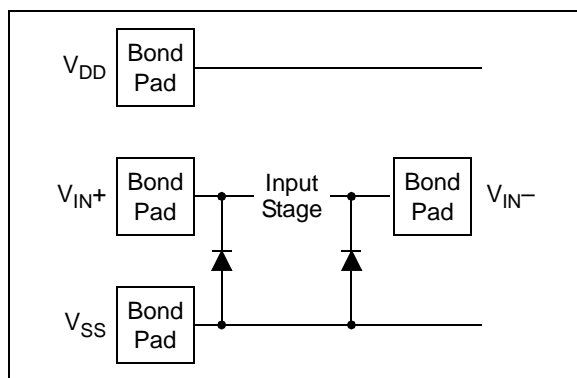

FIGURE 4-1: Simplified Analog Input ESD Structures.
The ESD protection on the inputs can be depicted as shown in Figure 4-1. This structure was chosen to protect the input transistors, and to minimize input bias current (IB). The input ESD diodes clamp the inputs when they try to go more than one diode drop below V_{SS} . They also clamp any voltages that go too far above V_{DD} ; their breakdown voltage is high enough to allow normal operation, and low enough to bypass ESD events within the specified limits.